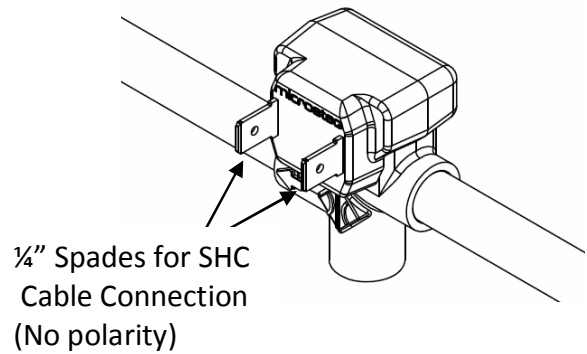

Figure 3: SEV Electrical Connections
7. Connect the SHC cable to the SEV. There are two wires on the SHC cable assembly that are already fitted with insulated ¼" female spade connectors. Once system power is back on, connect these to the two ¼" male spades on the SEV (Figure 3). There is no polarity in the SHC/SEV connection.